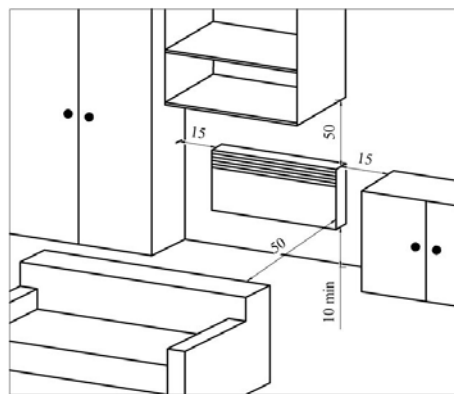

Fig. 2
- It is necessary to hold minimum distances from the objects when mounting the convector as shown in Figure 2, Figure 3 (dimension in cm);
Place the convector on supports in the room is similar (see Fig. 2). The distance from the back wall of the convector to objects (furniture, curtains, etc.) must be at least 15 cm.